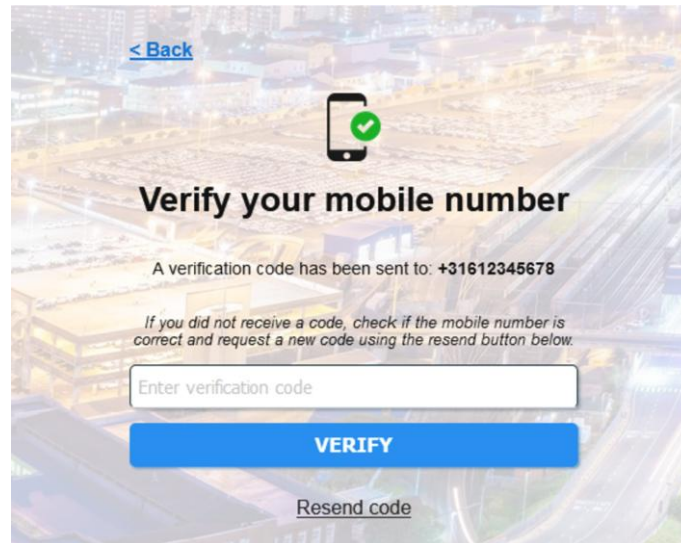

Figure 28 Mobile phone number verification
2. A verification screen will appear where the user must enter the code (see Figure 28).